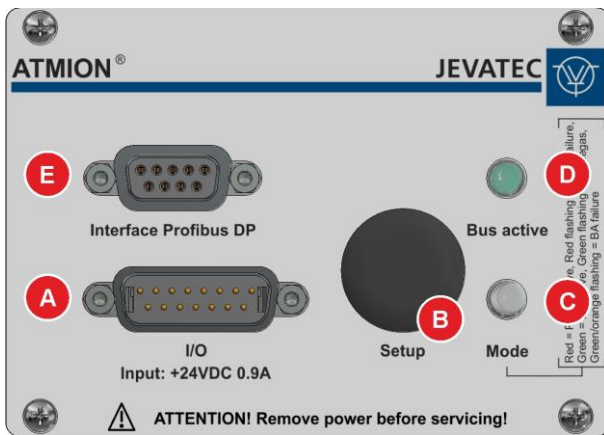
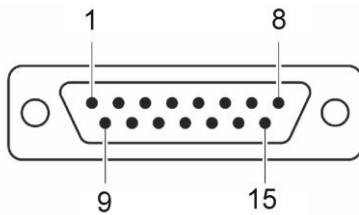
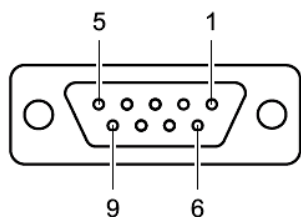

Figure 10 – Closed back of the device
Figure 13 – I/O connector (SUB-D, 15-pin)
Figure 14 – Connection socket Interface Profibus DP (SUB-D, 9-pin)
For further functional descriptions, please refer to the Figure 13, page 24.
Die Figure 10, page 23 shows the front side of the ATMION® Electronic Box, which is connected to the sensor by means of a plug system and union nut.
The Figure 10, Page 23 shows the back of the ATMION® Electronic Box in different states.
The connection I/O for power supply, analogue output, external control, relay output and serial interface RS232 (🔌📖 Figure 10, A, Page 23 and Figure 13, Page 24) combines all connections necessary for operating the vacuum gauge.
Voltages above 60 VDC or 30 VAC are dangerous to touch. They must not be connected to the contacts for external control and degassing (🔌📖 Figure 13, Page 24, PIN 1, 4, 5 and 6) only switch voltages of 24 VDC. This voltage must meet the requirements of a safety extra-low voltage (SELV-E) according to EN 61010.
The Profibus DP interface connection (🔗📖 Figure 10, E, Page 23 and Figure 14, Page 25) enables the device to be integrated into a Profibus-DP bus system. It is optionally available.
- Connect the connection of your JEVAmets[®] VCU-A0 or AM controller or the corresponding connections of the system via a shielded cable to the I/O connection ( Figure 10, A, Page 23) on the back of the ATMION[®].
- The LED Mode ( Figure 10, C, Page 23) on the back of the ATMION[®] lights up according to the operating status ( Table 5, Page 25).